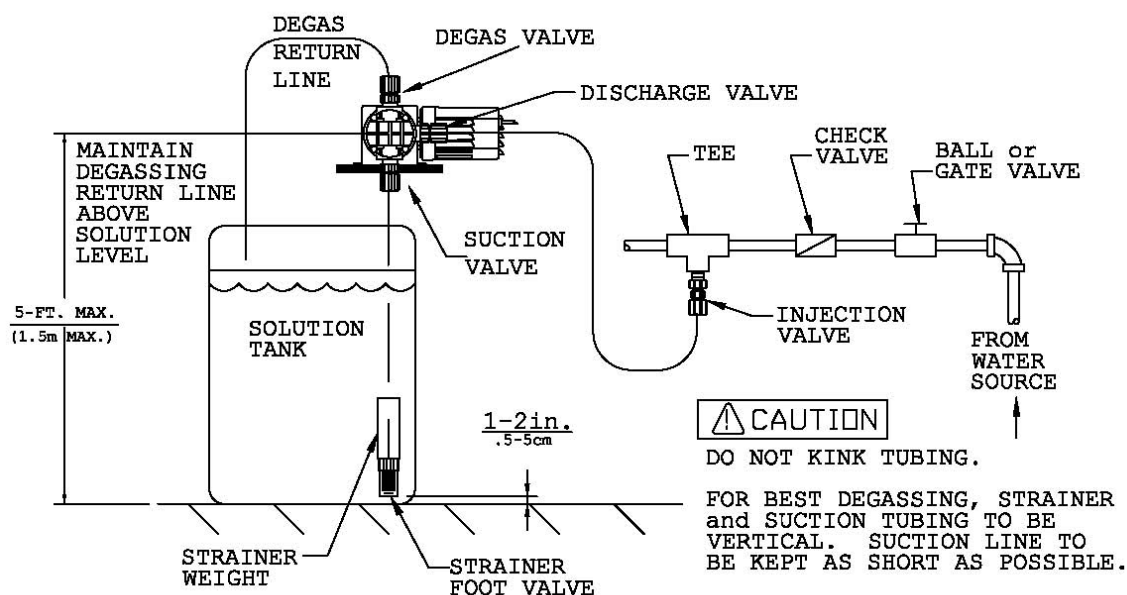

Figure 1
The degassing head is designed to return a small percentage of the pumps output back into the tank through the degas valve when the pump is operating. The fluid that is being returned via the return line to the tank is part of the normal operation of the degassing head. As a result, the pumps maximum output will be reduced and its output should be verified and adjusted as necessary. Install the pump as show in figure 1 while adhering to the following installation instructions:
2. Slide the other end of the suction tubing through the strainer weight and install the foot valve on the end, see figure 1.
TIP: For best results, insure the strainer / tubing hangs vertically and is as short as possible with the strainer near the bottom of the solution tank but above any sediment, see figure 1.